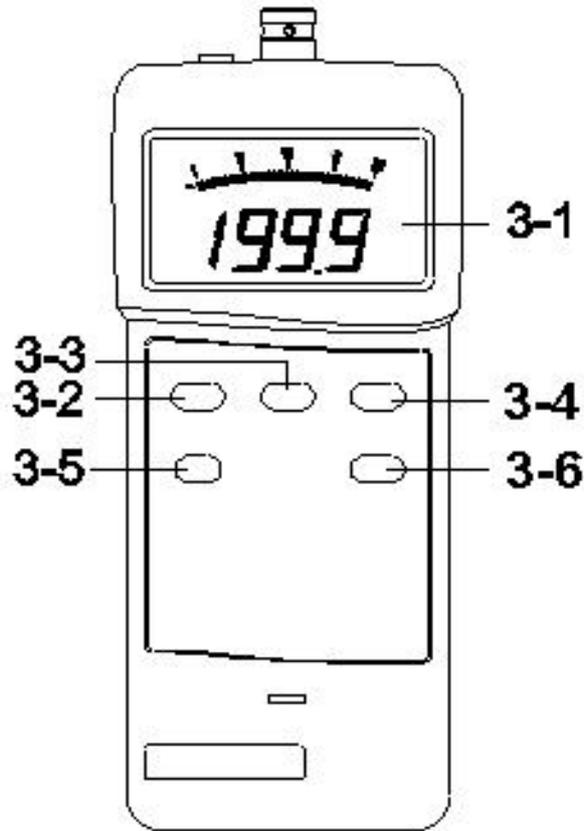
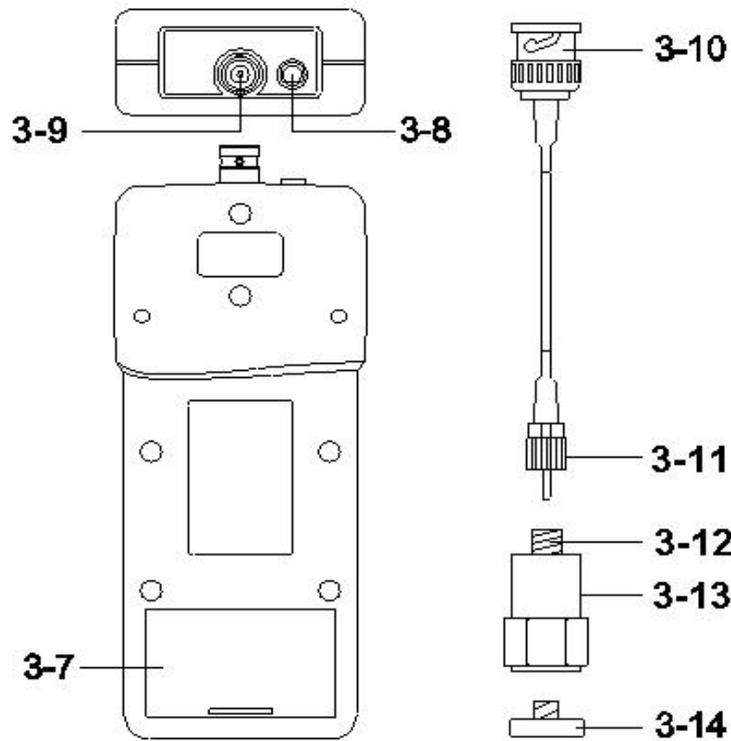

Fig. 1
Fig. 2
- 1) Plug in the " BNC plug of cable " (3-10, Fig. 2) to the " BNC socket of meter " (3-9, Fig. 1).
- 2) Plug in the " Mini plug of cable " (3-11, Fig. 2) to the " Input socket of vibration sensor " (3-12, Fig. 2).
- 3) Power on the meter by press the " Power Button " (3-2, Fig. 1) once a while.
* If the surface material of measuring article is the ferrous material, connect " Vibration sensor " (3-13, Fig. 2) with the " Magnetic base " (3-14, Fig. 2). Put the whole unit (Vibration sensor & Magnetic base) to the surface of measuring article.
Select the desired function (RMS, PEAK, MAX-HOLD) by pressing the " FUNCTION Button " (3-5, Fig. 1).
Select the desired display unit by pressing the " UNIT Button " (3-6, Fig. 1).
If press the " UNIT Button" (3-6, Fig. 1) continuously at least 5 seconds, then will change the Metric unit (m/s² G, mm/s, cm/s, mm) to Imperial unit (ft/s² , inch/s, inch) each other.
During the measurement, push the " Hold button " (3-3, Fig. 1) will hold the measured value & the LCD will indicate " H " symbol.
- a. Get into RECORD mode by momentarily pressing " REC Button " (3-4, Fig. 1) once. REC icon will be ON.
- b. Get out RECORD mode by pressing and hold " REC Button " (3-4, Fig. 1) for 2 seconds. REC icon will be OFF.
- 1) Plug in the " BNC plug of cable " (3-10, Fig. 2) to the " BNC socket of meter " (3-9, Fig. 2).
- 2) Plug in the " Mini plug of cable " (3-11, Fig. 1) to the " Input socket of vibration sensor " (3-12, Fig. 2).
- 6) Press the " HOLD Button " (3-3, Fig. 1) continuously at least 2 seconds will let the display reach zero value.
During the measurement, push the " Record Button " (3-4, Fig. 1) to execute the memory record function.
1. Press the " REC Button " (3-4, Fig. 1) once to start the Data Record function and there will be a " REC " symbol on the display.
2. Press the " LOGGER Button " (3-6, Fig. 1) once to start the Auto Data Logger function. The upper display will show the sampling time in seconds (For example, 1, 2, 10, 30, 60, 600, 1800, 3600) once a while then revert to the normal display screen. In the same the " REC " indicator will be flash per the sampling time, in the same time, the beeper will sound a while. Now the data Logger function is executed and the measuring data will save into the memory per the sampling time.
3. During the Data Logger function is executed, press the " LOGGER Button " (3-6, Fig. 1) once will stop to execute the data logger function, then the " REC " indicator will stop to flash. Pressing the " REC Button " (3-4, Fig. 1) at least two seconds, then the " REC " indicator will be disappeared.
2. Press the " LOGGER Button " (3-6, Fig. 1) once to start the Manual Data Logger function. The upper display will show " 0 " (0 second sampling time) once a while then revert to the normal display screen.
Press the " LOGGER Button " (3-6, Fig. 1) once again will save one measuring data into the memory, indicator will be flash per the sampling time, in the same time, the beeper will sound a while.
3. If intend exit the Manual Data Logger function, just pressing the " REC Button " (3-4, Fig. 1) at least two seconds, then the " REC " indicator will be disaappeared.
2. Use the two fingers to press the " HOLD Button " (3-3, Fig, 1) and the " REC Button " (3-4, Fig. 1) at the same time and not release those fingers, use another finger to push the " POWER Button " (3-2, Fig, 1) once, then until the display show the existing sampling time (for example 1, 2...), then release the two fingers at the same time.
3. Press the " UNIT Button " (3-6, Fig. 1) once a while will change the sampling time (1, 2, 5, 10, 30, 60, 600, 1800, 3600 seconds). After the desired sampling be selected, then press the " REC Button " (3-4, Fig. 1) to save.
- 4 Press the " ESC Button " (3-3, Fig. 1) once will return the normal measuring screen.
3. Press the " REC Button " (3-4, Fig. 1) continuously at least 5 seconds, then display will show " 0 ".
3. Press the " HOLD Button " (3-3, Fig, 1) or the FUNCTION Button " (3-5, Fig. 1) will search the the data that already save into the memory.
- 1) Press the " Send Button " (3-5, Fig. 1) at least 2 seconds until the display show " 232 " (flashing), release the button.
- 2) Push the " Send Button " (3-5, Fig. 1) once again, the display will show the saved data no, then decrease to " 1 " and the display will present " 232 " again, now all the memory data already send out from the meter via the " RS-232 Output Terminal " (3-8, Fig. 2).
The instrument has RS232 PC serial interface via a 3.5 mm terminal (3-8, Fig. 2).